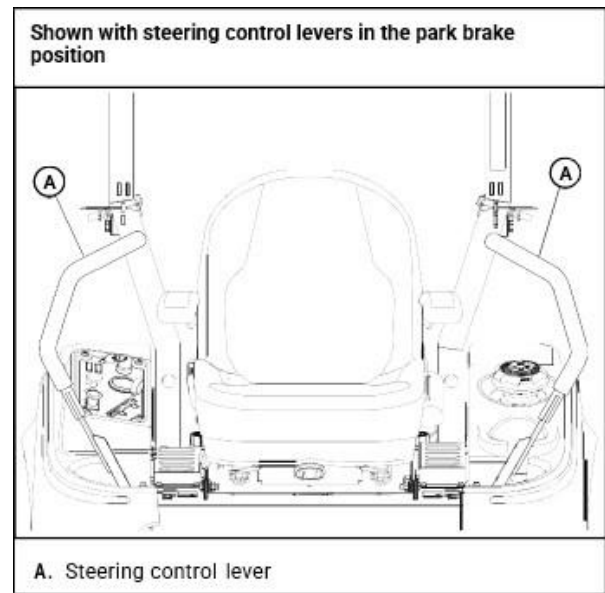

Figure 3
6. Start the engine. Move the steering control lever to barely engage the brake (neutral) slot and hold it in that position (Do not engage the steering control lever far enough to engage the brakes in the brake slot). [Figure 3]